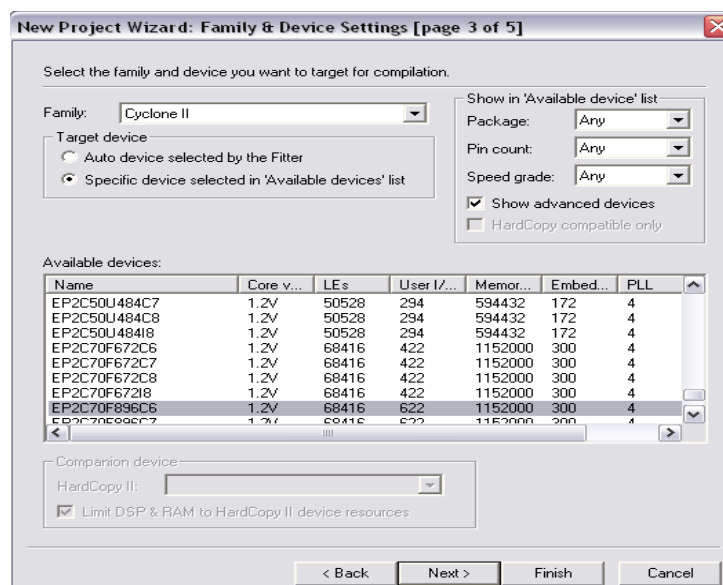

Figure 5. Choose the device family and a specific device
3. The wizard makes it easy to specify which existing files (if any) should be included in the project. Assuming that we do not have any existing files, click **Next**, which leads to the window in Figure 5.